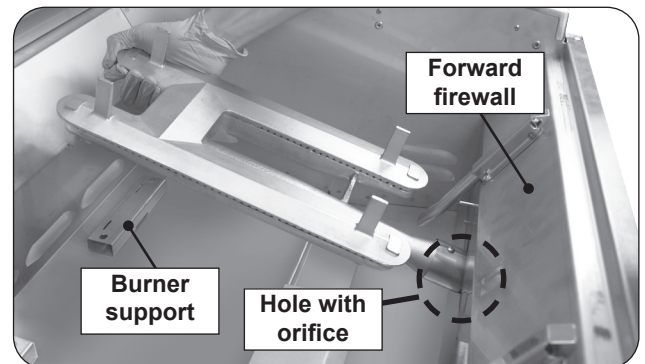

Fig. 45-3 Remove main burner
3. Carefully lift the burner from the burner support and out from the hole in the forward fire wall. See Fig. 45-3.